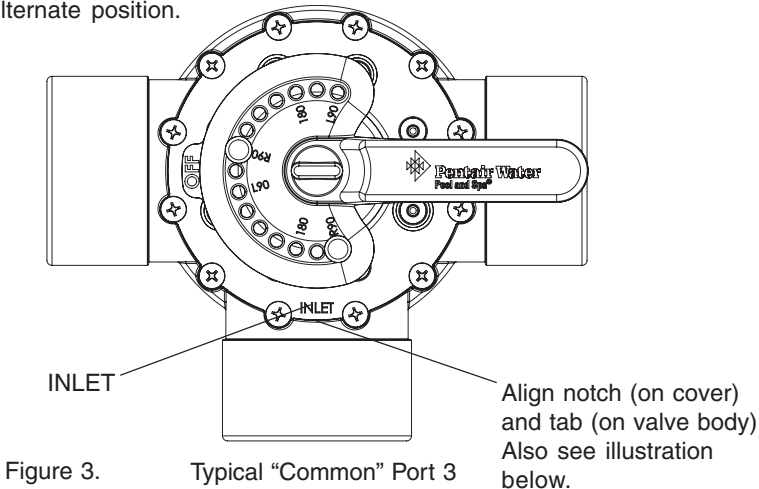

Figure 3.
To remove the diverter valve top cover (see Figure 3):
- 2. Align the notch (on cover) and tab (on valve body) this will position the top cover molded name “INLET” over the center or “common” port as shown in Figure 3. Make sure the cover and valve body screw holes are aligned.